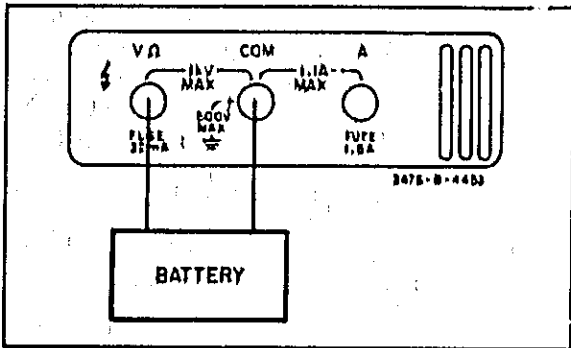

Figure 3-4. DC Voltage Measurement.
3-16. Connect test leads from the Multimeter V Ω (HI) and COM (LOW) connectors to the voltage under test as shown in Figure 3-4.